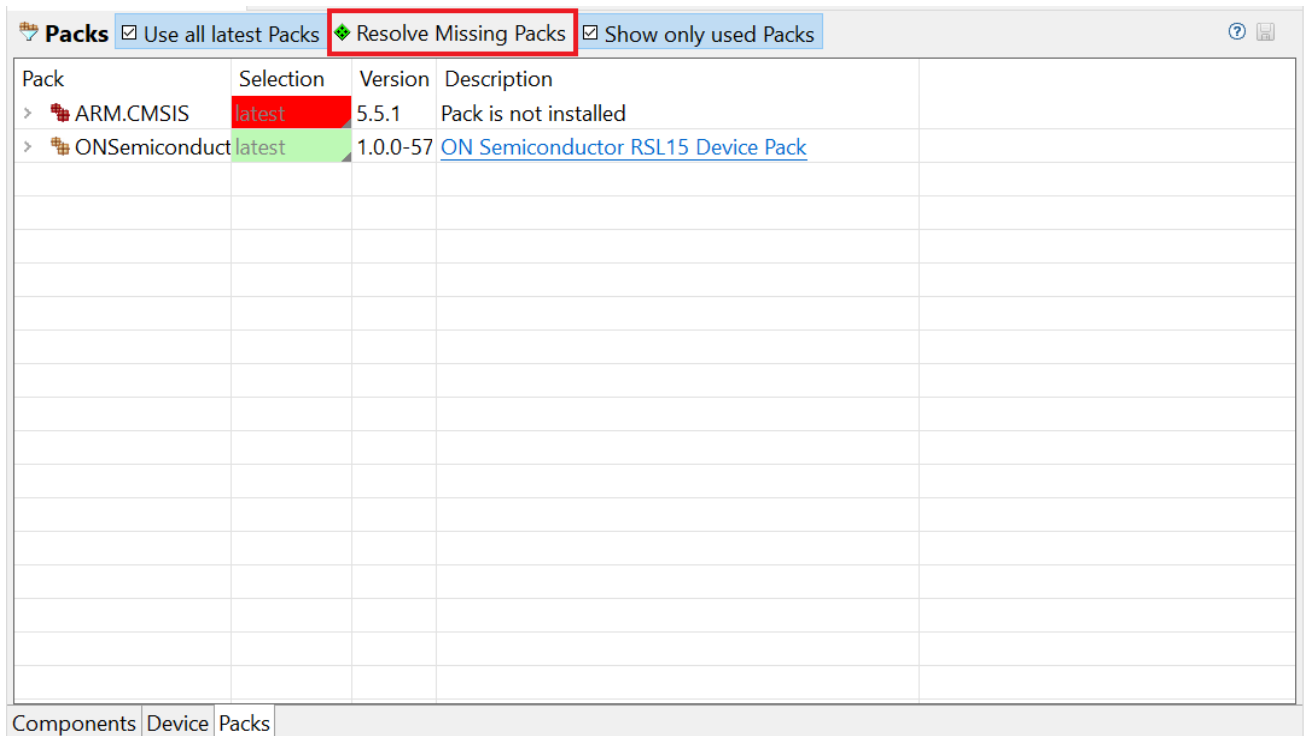

Figure 48. Resolve Missing Packs Icon
- Open the \*.rteconfig file; in the **Packs** tab, select the **Resolve Missing Packs** button (see the figure "Resolve Missing Packs Icon" (Figure 48)).